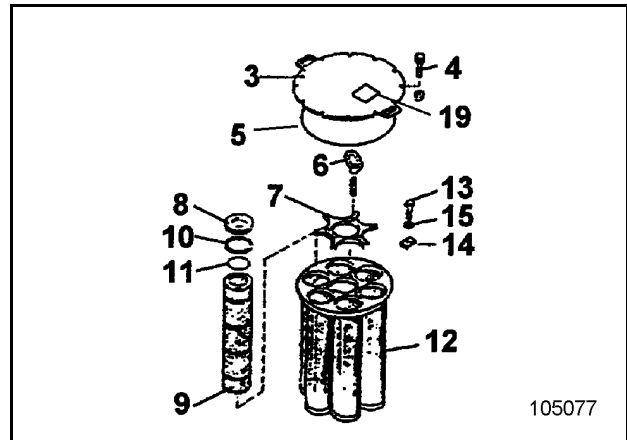

Fig. 3-47:
- Loosen screws (13, Fig. 3-47:) and take off spring clip (14) and disk (15).
- Remove basket (12) and clean in paraffin oil.
- Install basket (12).
- Insert filter element (9) together with sealing ring (11) and cap (8) with sealing ring (10).
- Refit cover (3).